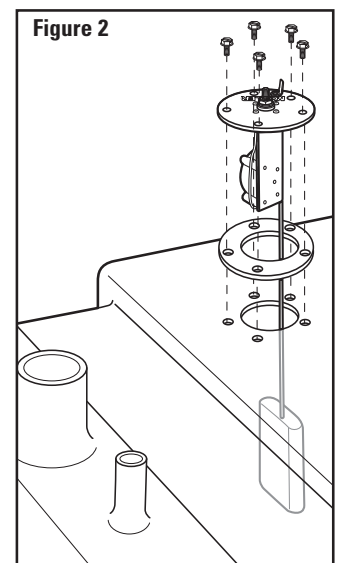

Figure 2
6. Align gasket properly with the mounting plate and tank. NOTE: The gasket's 5-hole screw pattern only fits one way (see Figure 2.)